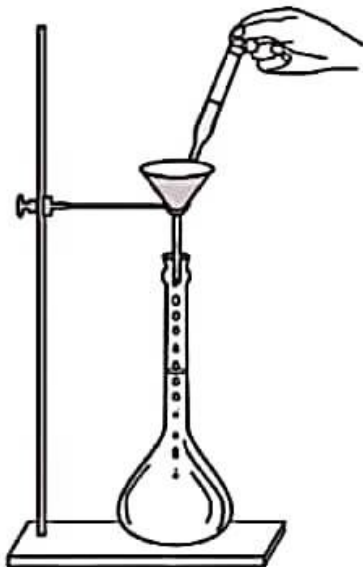

Fig. 11.16. Adding last small amount of water dropwise.
8. Add the last few drops of distilled water with a pipette or a dropper until the lower level of the meniscus just touches the mark on the measuring flask [Fig. 11.16].